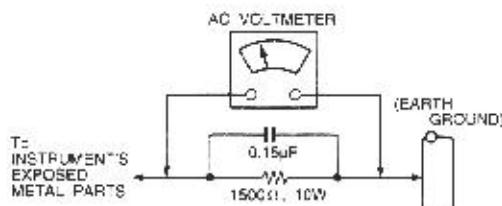

Fig.1
- 5-2 Connect a 1500 ohm, 10 watt resistor, paralleled by a $0.15\mu F$ capacitor between each exposed metallic part and a good earth ground (as shown in Fig.1).